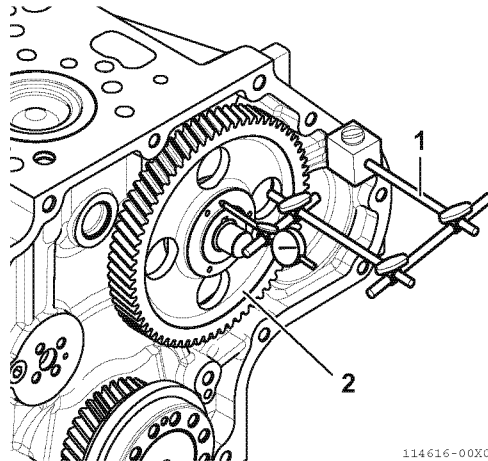

Fig.11-1
1. Method A: Install a dial gauge (1, Fig.11-1) onto the cylinder block. Rotate the camshaft (2, Fig.11-1) back and forth to check the end play. Record the measurement. For standard value, see 0000-07-01-02 "Camshaft".